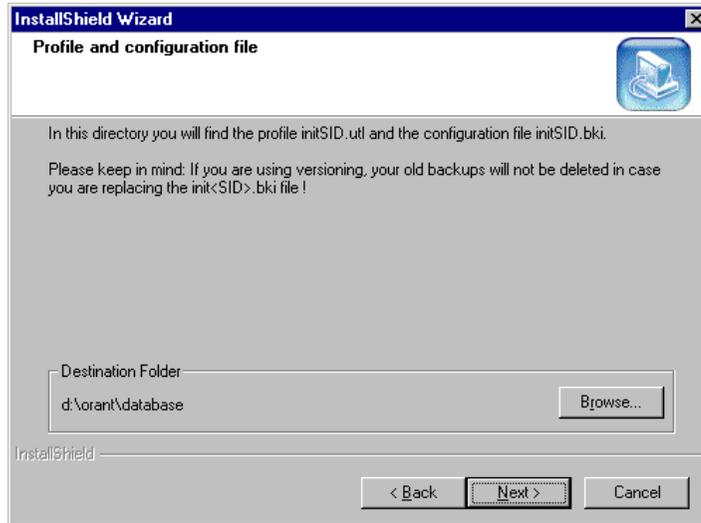

Figure 72. Choose destination for profile files
- Then, as shown in Figure 72, select the destination folder for the profile and configuration files `init<SID>.utl` and `init<SID>.bki`. It is very helpful to store these files in the same folder where your `init<SID>.sap` profile resides. In our case, is it the `d:\oracle\C31\dbs` folder.